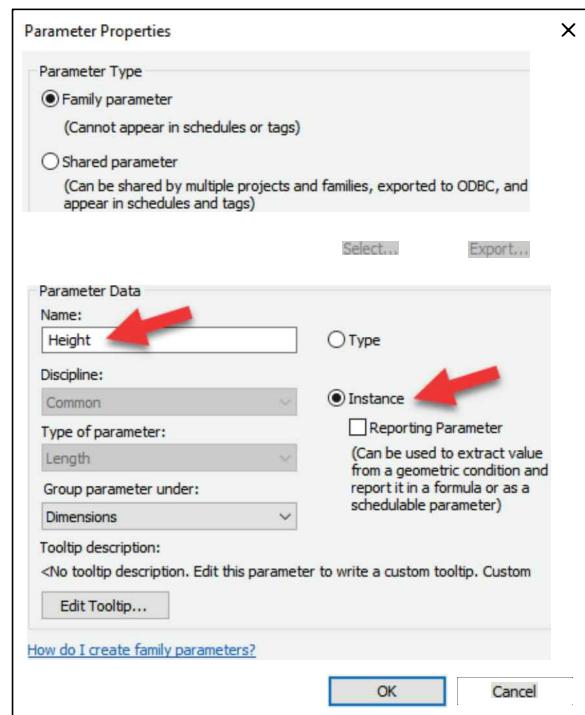

FIGURE 17-3.7 Creating the *Height* parameter
11. Add a **Height** parameter to the dimension (see Figure 17-3.7 and 17-3.8).